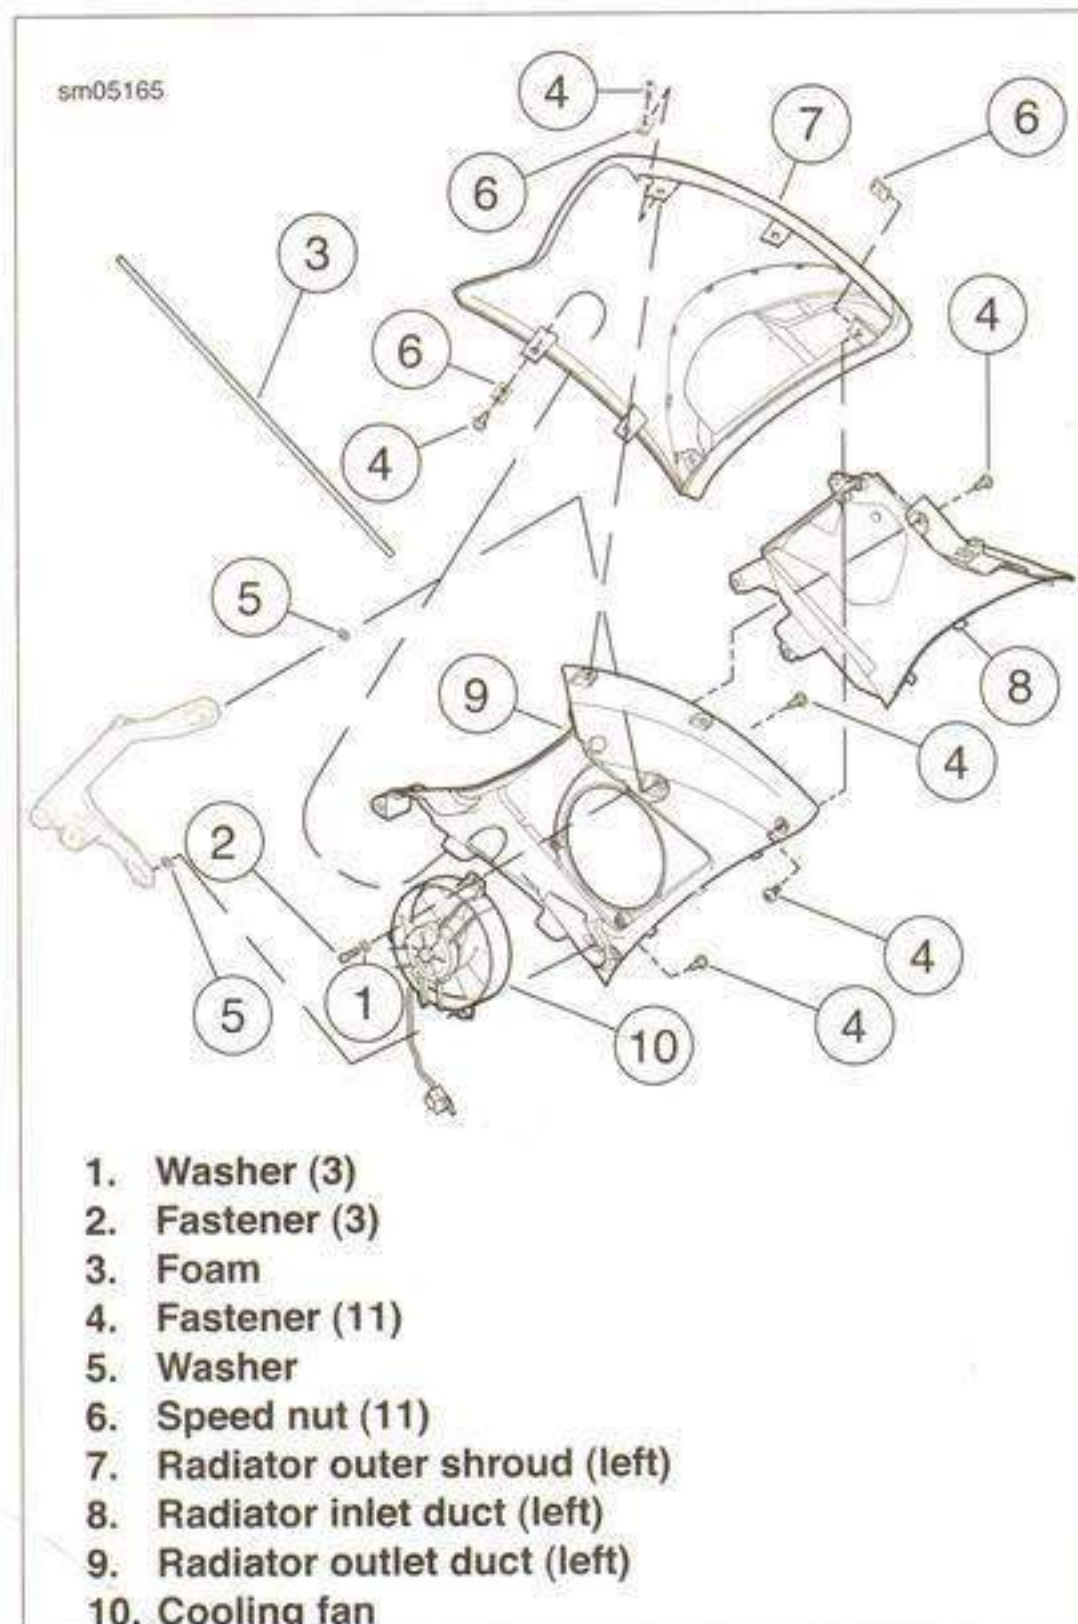

Figure 7-130. Left Side Cooling Fan Components
1. See Figure 7-130. Install cooling fan (10).
2. Install cooling fan washers (1) and fasteners (2) and tighten fasteners to 9.7-10.9 Nm (86-96 in-lbs).